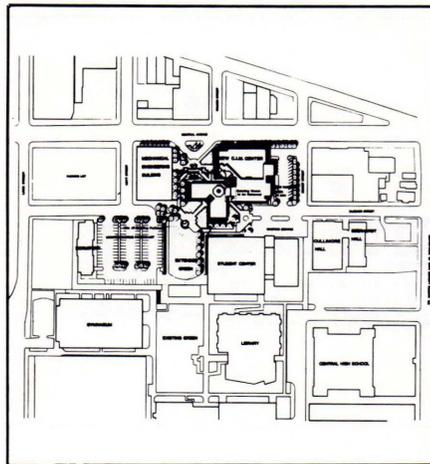

Fig. 3
*Rothe Johnson Associates Fig. 3, 4, 5, 6